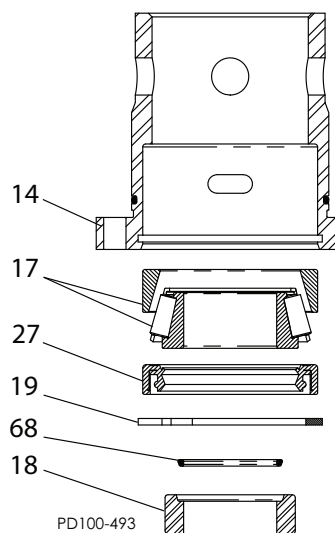

Figure 43 - Press Shaft Free of Rear Bearing
2. With the bearing case supported as shown in Figure 43, press the shaft free of the rear bearing (item 17), bearing case (item 14), seal sleeve o-ring (item 68), and seal sleeve (item 18).
3. Remove the retaining ring (item 19) from the bearing case and press the rear bearing cup and rear bearing seal (item 27) out of the bearing case.